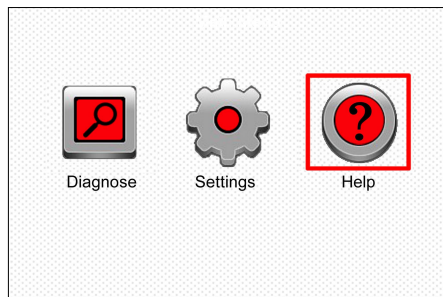

Figure 7-4
- When the tool has powered up, place cursor on the Help icon and press the [OK] button. (Figure 7-4)